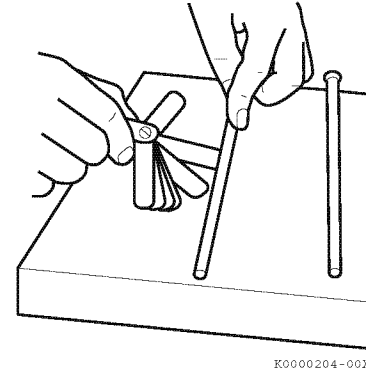

Figure 6-11
3. Use a feeler gauge to measure the gap (Figure 6-11). See *Push Rod* on page 6-4 for the service limit.